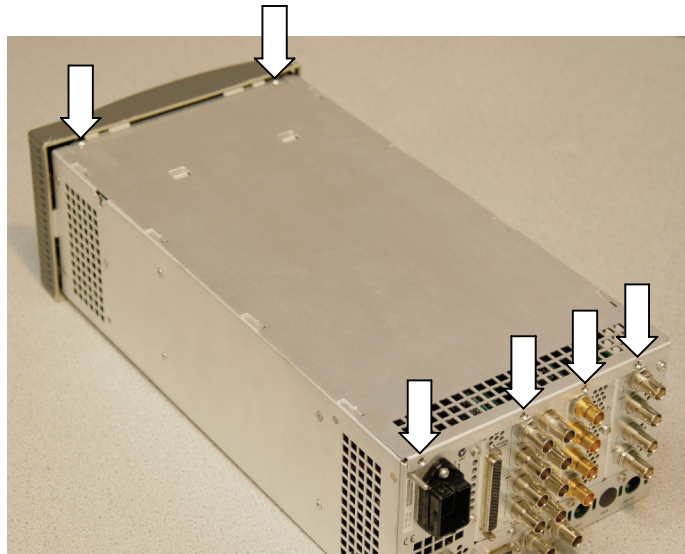

Figure 2: Removing the top cover
1. Remove the two T-10 screws at the top cover front corners (see Figure 2).
2. Remove the four T-10 screws securing the top cover to the rear panel (see Figure 2).
2. Replace the four T-10 screws securing the top cover to the rear panel (see Figure 2). Torque these screws to 8 in/lb.
3. Replace the two T-10 screws at the top cover front corners (see Figure 2). Torque these screws to 8 in/lb.